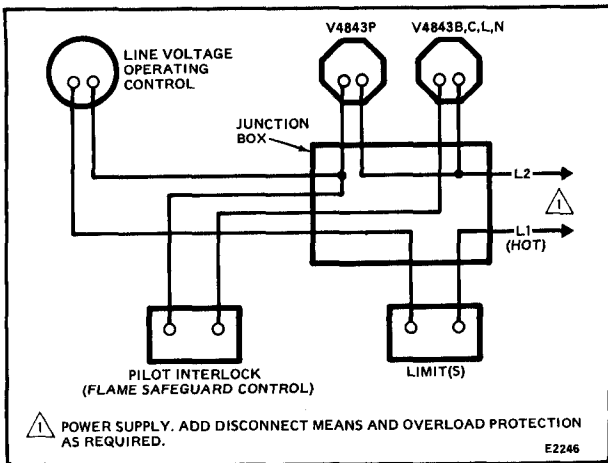

FIG. 8—TYPICAL WIRING DIAGRAM FOR V4843P.
The V4843/8843P valves must be used as redundant valves in gaseous fuel control systems with intermittent pilot as the main valve and pilot are energized simultaneously. Refer to Figs. 8 and 9. Failure to follow these instructions could result in a hazardous condition.
7. Make electrical connections as illustrated in the wiring diagrams, Figs. 8 and 9.
6. Refer to Figs. 8 or 9 for typical field wiring connections. Follow the burner manufacturer's wiring diagram if provided.